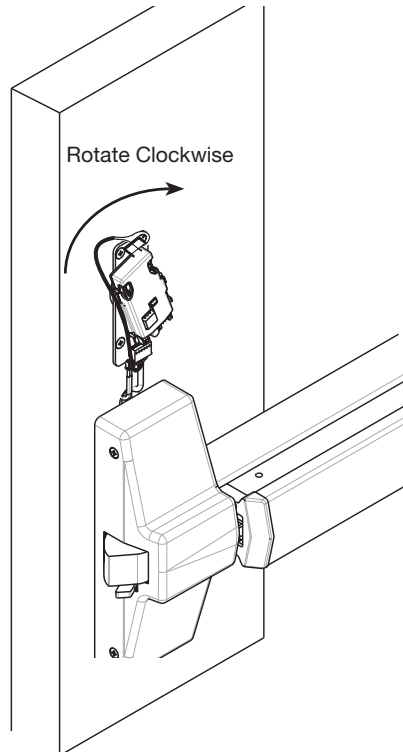

Fig. 9b
2. Press piece against door while turning clockwise (Fig. 9b).